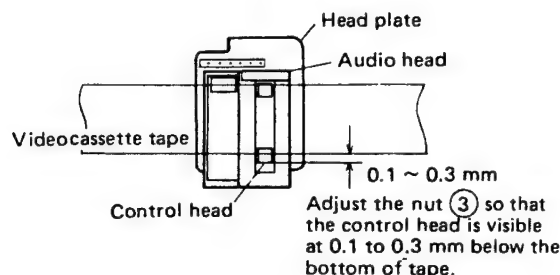

Figure 22.
8. Use a rough alignment tape and play it back. Using the specified box driver, turn the hexagon nut for audio/control head height adjustment so that the audio/control head has the height with regard to the tape as shown in Fig. 22.